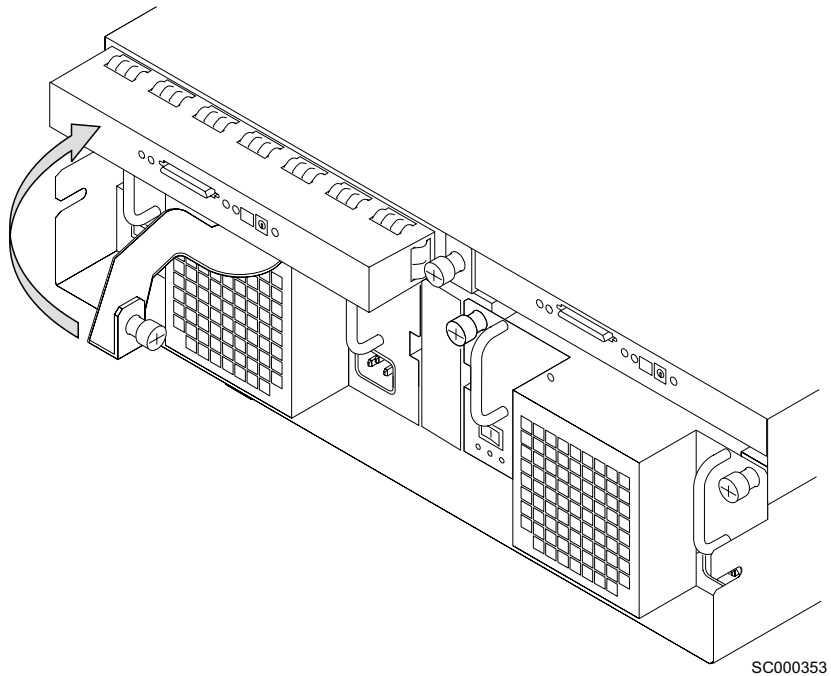

Figure 40. Closing the lever on the card assembly
- b. Push the lever **1** until it is fully closed to plug the card assembly into the 2104 Model DS4. See Figure 40.